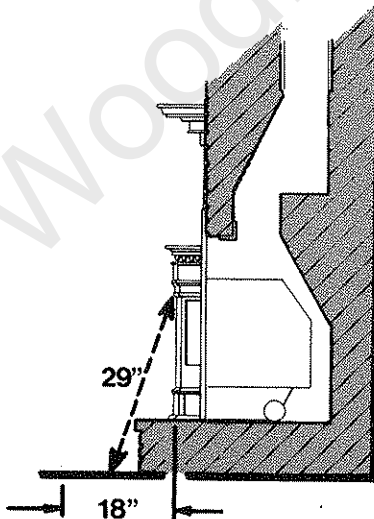

FIG. 3 HEARTH EXTENSION
- After the Insert is installed, measure the distance between the top of the Insert doors and the floor in front of the hearth. If that dimension is 29" or less, use 24 gauge sheetmetal, covered by $\frac{3}{4}$ " layer of non-combustible materials. If that dimension is greater than 29", the hearth extension may consist of $\frac{3}{8}$ " non-combustible material only (see Fig. 3).